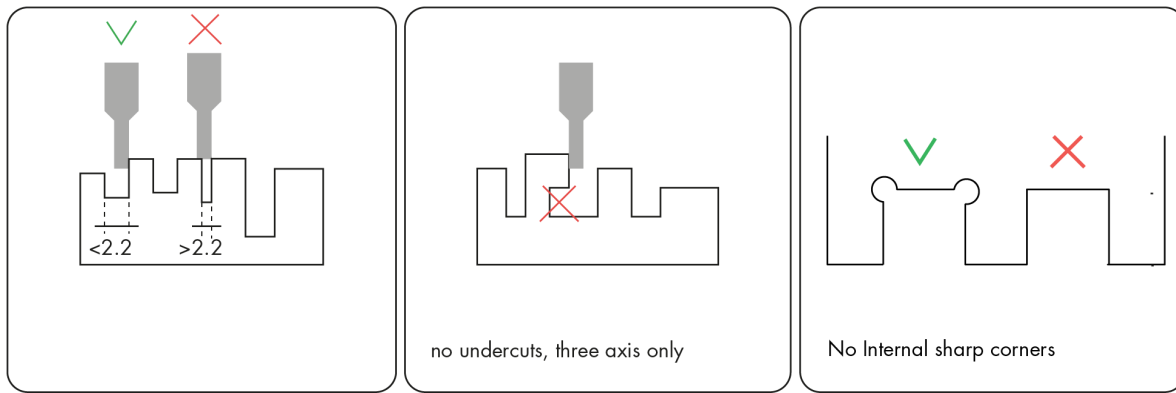

Fig 1.1
2. The tools cannot cut sharp internal corners (refer back to fig 1.1).